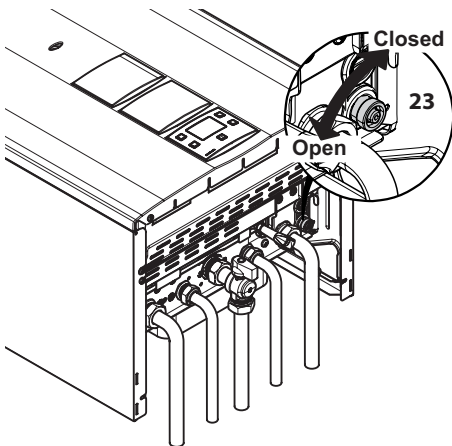

Figure 9.4
- Loosen the boiler drain cock 23 indicated in Figure 9.4.